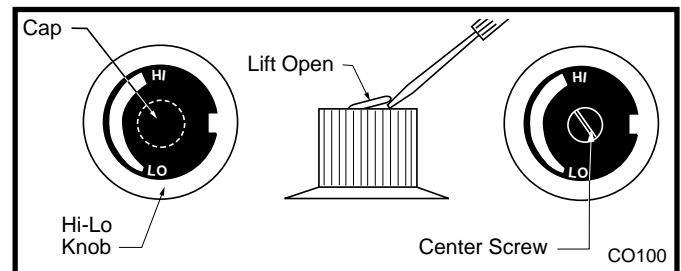

**Fig. 38** Remove rear log bracket and left and right log bracket assembly.
5. Remove the rear log bracket by unfastening the screw and pulling the bracket away. (Fig. 38)
6. Remove the right and left log bracket assembly by unfastening the two screws which hold the burner in place. (Fig. 38)
14. Locate pilot. (Fig. 38)